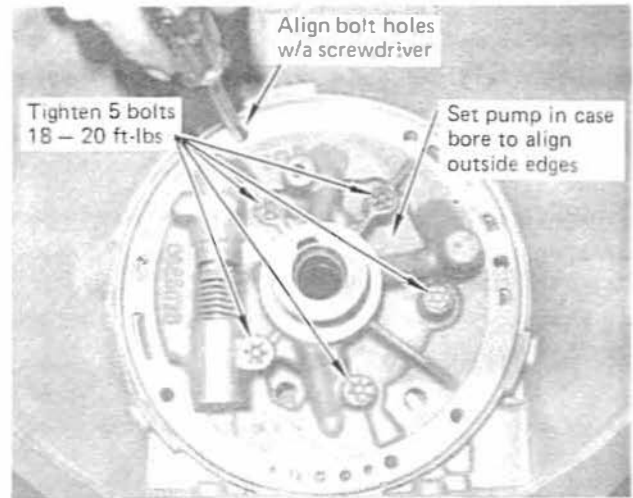

FIGURE 38
STEP 9. Position the pump cover over the pump body. Align the outer bolt holes and hold the pump halves together while installing the five pump bolts finger tight. The outer edges of the pump must be aligned properly. This can be done by setting the pump into the transmission case, face down, and aligning the outer bolt holes with a screwdriver. (See Fig. 38) Do not install an O-ring on the outside diameter of the pump during this operation. Tighten pump bolts 18 to 20-ft lbs. Remove the pump from the case and set carefully over the neck of the torque converter. Rotate the entire pump assembly on the converter. It should rotate freely with a slight even resistance. Any bind or tightness indicates dirt, burrs or warpage interfering with the rotors. The pump will have to be disassembled and the problem corrected. An incorrectly assembled pump will fail immediately!